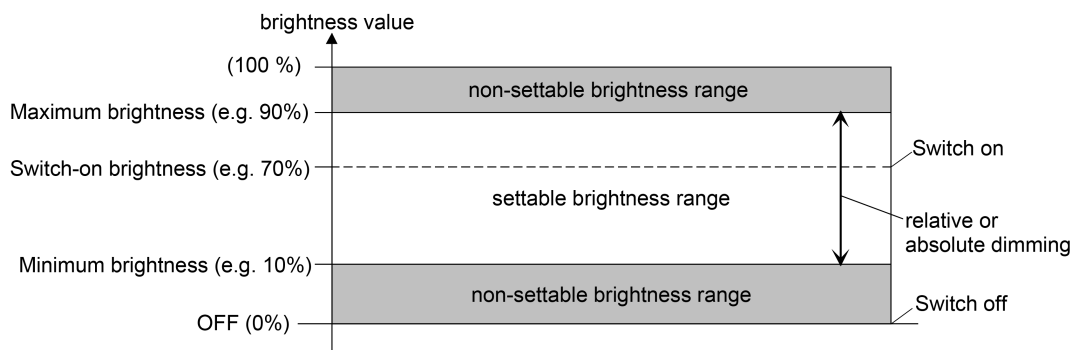

Figure 13: Example of a brightness range with minimum brightness
- Definition of the lower brightness limit with minimum brightness (Figure 13):
- i** In the "speed controller" operating mode for the "1-gang" device variant - similar to the description of the brightness values for lighting control in this chapter - the minimum speed can be configured in the ETS (Figure 13). The alternative configuration of a basic speed is not provided here for technical reasons. The maximum speed cannot be adjusted by means of a parameter either. It is predefined to 100 %. The cutting-in speed is unalterably preselected to a maximum speed (100 %).